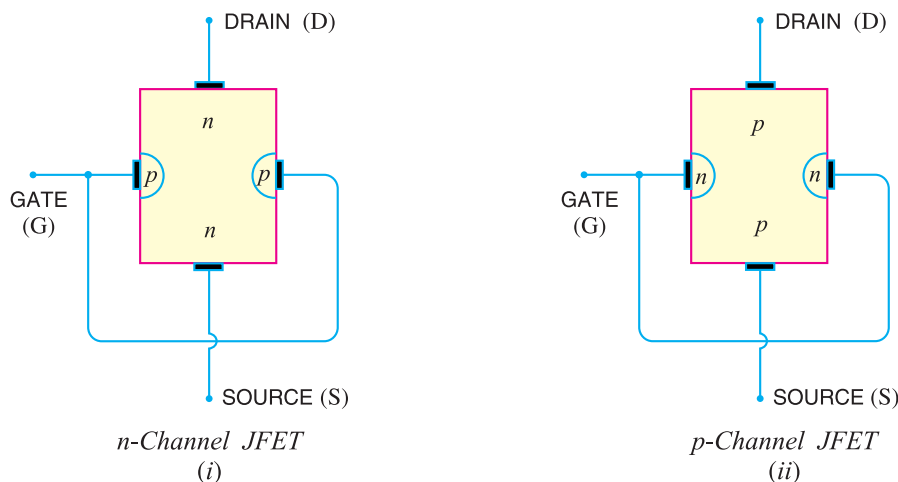

Fig. 19.1
Constructional details. A *JFET* consists of a *p*-type or *n*-type silicon bar containing two *pn* junctions at the sides as shown in Fig.19.1. The bar forms the conducting channel for the charge carriers. If the bar is of *n*-type, it is called ***n-channel JFET*** as shown in Fig. 19.1 (i) and if the bar is of *p*-type, it is called a ***p-channel JFET*** as shown in Fig. 19.1 (ii). The two *pn* junctions forming diodes are connected *internally and a common terminal called *gate* is taken out. Other terminals are *source* and *drain* taken out from the bar as shown. Thus a *JFET* has essentially three terminals *viz.*, *gate* (*G*), *source* (*S*) and *drain* (*D*).
* It would seem from Fig. 19.1 that there are three doped material regions. However, this is not the case. The gate material *surrounds* the channel in the same manner as a belt surrounding your waist.